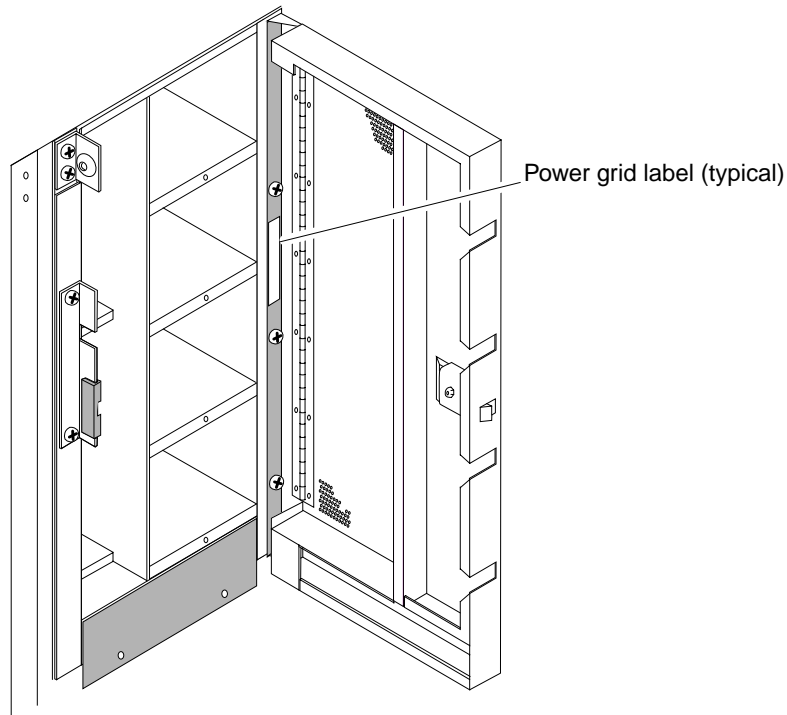

FIGURE 15 Power Grid Label on Power Shelf
5. **Install the power grid labels to the front, hinge side of all power shelves so that they are visible when the door is open (FIGURE 15).**